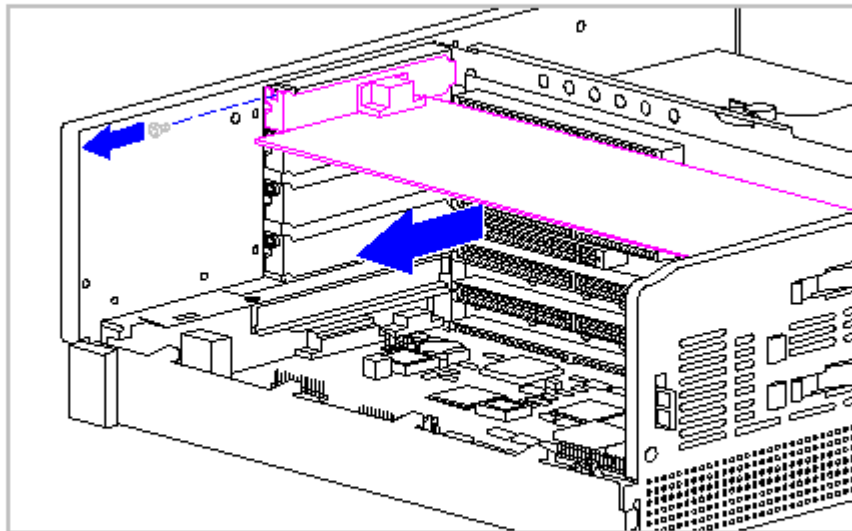

Figure 5-38. Removing an Expansion Card
4. Remove the screw securing the expansion card bracket to the rear of the computer (Figure 5-38) and slide the option card out of its connector on the backplane board.